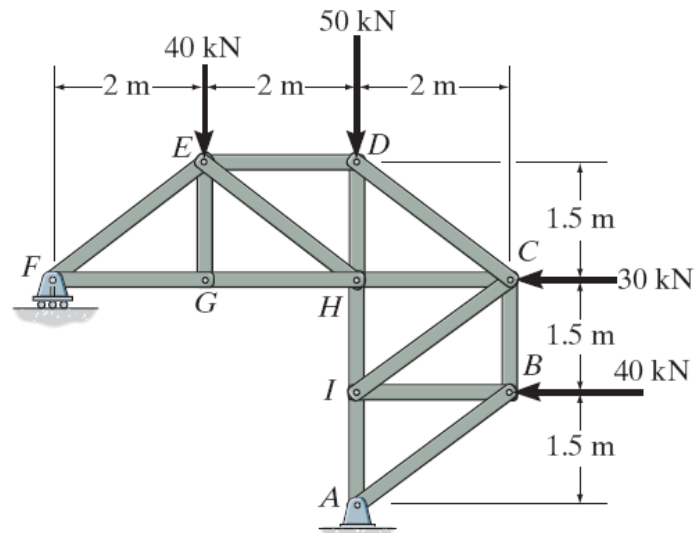

Figure Q3[a]
- Q3. [a] Determine the force in members ED , EH and GH of the truss as shown in Figure Q3[a] and state if the members are in tension or compression. Determine also the zero force members of this truss.**